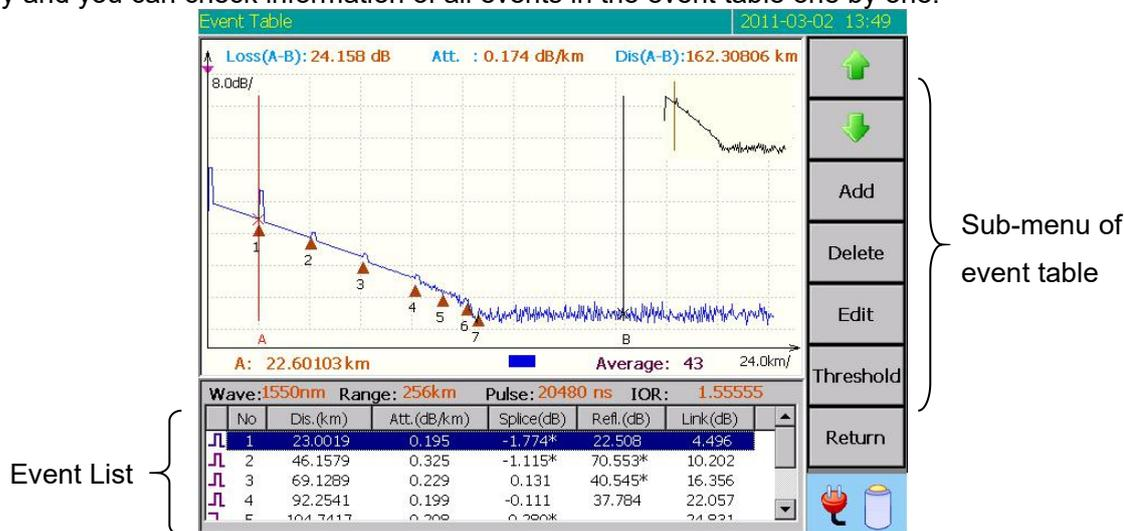

Figure 8-28 Event list window
The event table in the main screen is shown as follows (in Figure 8-28). Here press / key and you can check information of all events in the event table one by one.
- Touch screen operation: Press the menu item of **【Event】** in the main menu bar and the display window for test conditions in the main screen will be hidden. And at the same place, there will be a popup sub-window of the event table, as shown in Figure 8-28. All the event points' information will be displayed in list in this window.
- Operation of pressing the key: Press **(Menu)** and the active cursor will be shifted into the main menu bar. Press **(Down Arrow)** and it will shift the active cursor to the menu item of **【Event】**; then press **(Enter)** and the display window for test conditions in the main screen will be hidden. And at the same place, there will be a popup sub-window of the event table, as shown in Figure 8-28. All the event points information will be displayed in list in this window.